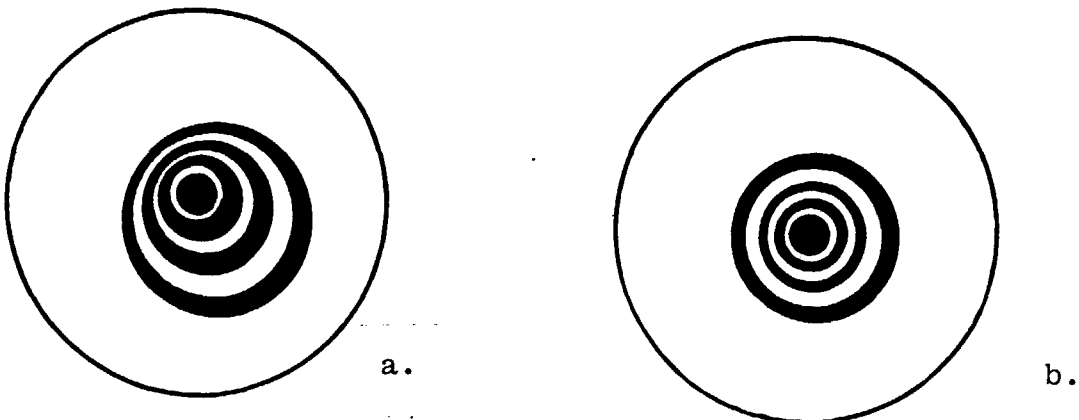

FIG. 4: Out-of-Focus Star Image
Step 4: After Steps 1-3 have been followed, your DS-10 telescope will be well-collimated. Final "fine-tuning" of the collimation must be performed while observing a star through the telescope, with an eyepiece in place. Center a fairly bright star in the telescope's field of view. Then defocus the star image. It will then appear as in Fig. 4 , with several rings surrounding the central star. If Step 3 was performed accurately, these rings will be round and concentric; if not, adjust the wing nuts of the primary mirror cell until the rings are well-centered, as in Fig. 4b . (In any case, it is not necessary to re-do Steps 1 and 2.) With this centering accomplished, collimation is completed.